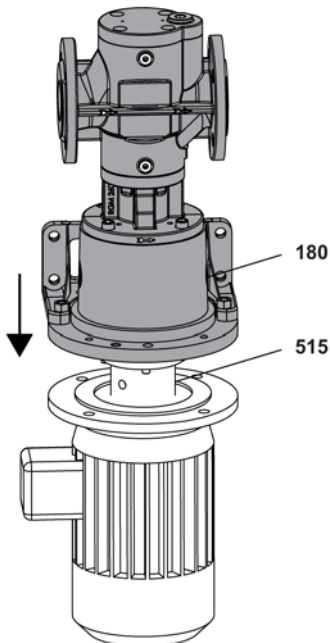

Fig. 17
6. Place the pump with the pump bracket on the motor, see Fig. 17. Do not use force and ensure that the outer rotor does not strike the containment can.